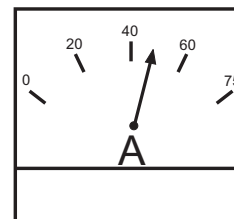

Figure 75. Ammeter (Load)
18. Observe the generator's ammeter (Figure 75) and verify it reads the anticipated amount of current with respect to the load. The ammeter will only display a current reading if the load is in use.